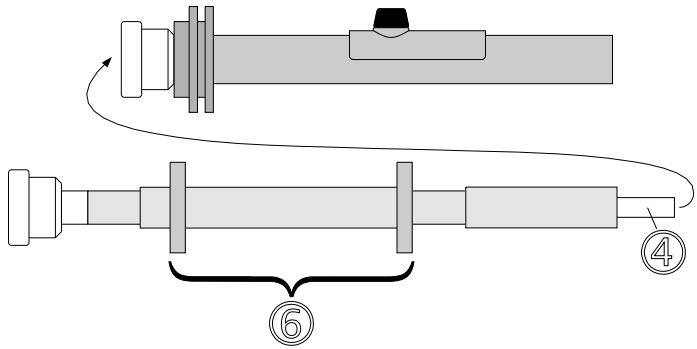

Fig. 4.3.a
In the simplest case, an extension bar is connected with an electrode clamping device to the handle of the ISOTEST® unit (Fig. 4.3.a). When doing this, it is necessary to ensure that the plastic tube at the end of the extension bar is firmly attached to the plastic nut of the handle. A locator tube ④ must be screwed into the extension bar.
Extension bars are connected **to each other** without a locator tube by screwing them inside each other (② and ③ in Fig. 4.3.b). The extension bar ② coupled to the handle ① only requires to be provided with a locator tube ④. The locator tube is only screwed into the extension bars and can be changed easily.